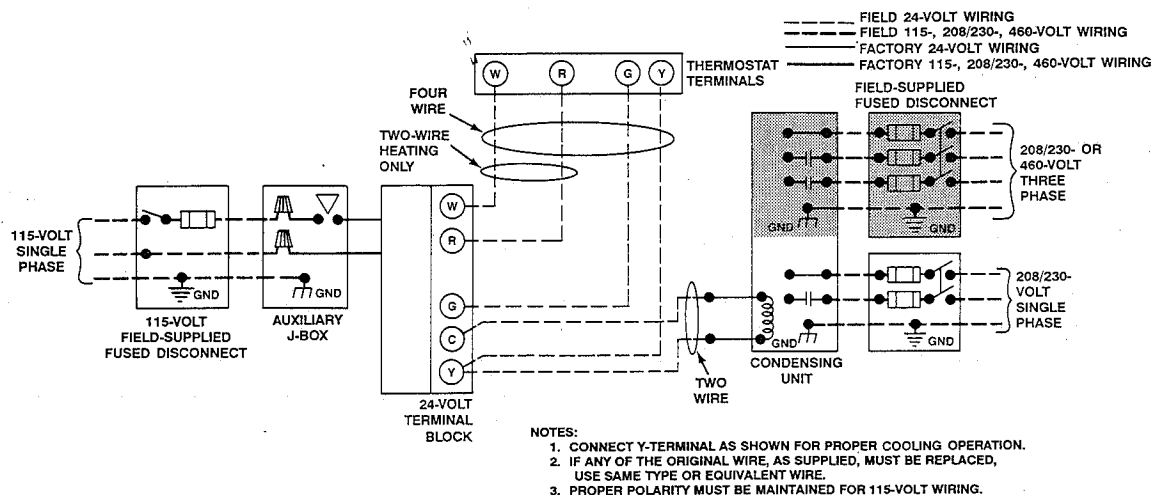
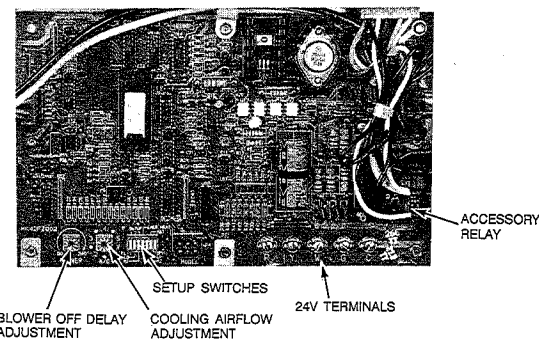
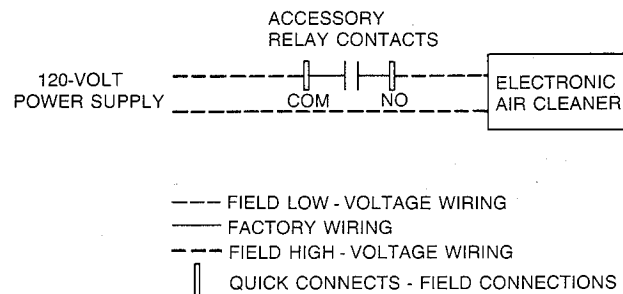

Fig. 7—Heating and Cooling Application Wiring Diagram
Fig. 11—Microprocessor Control Center A92099
Fig. 12—Electronic Air Cleaner A87330
See Fig. 7 for a wiring diagram showing the proper field 115- and 24-v wiring. Check all electrical connections (both factory and field) for tightness.
24-V WIRING — Make field 24-v connections at the 24-v terminal block on the control center; connect Y terminal as shown in Fig. 7 for proper cooling operation. The 24-v terminal board is marked for easy connection of field wiring. (See Fig. 11.)
Wire the air conditioner control circuit to terminals Y and C. (See Fig. 7 and 11.)
When connecting a 2-speed outdoor unit to this furnace, connect Y1 and Y2. (See Fig. 7, 9 and 11.) Set constant fan speed as directed below.
An isolated set of normally open contacts (not connected to 24 vac or 120 vac) are available to operate any accessory such as an electronic air cleaner (EAC) or humidifier. The relay contacts will close whenever the blower motor is operating. These contacts are accessible by two 1/4-in. quick connects mounted directly on the relay as shown in Fig. 11. Wire leads with quick connects have been supplied as part of the control box wiring to simplify hookup per the 3 possible combinations shown in Fig. 12, 13, or 14.
4. Cut wire tie that surrounds accessory hookup leads. (See Fig. 11.)
NOTE: For 120-v accessory hookup, see items 5 through 11 and Fig. 12 or 13.
5. Locate black pigtail lead from 120-v terminal block (TB) and cut off tip of insulator—allowing 1/4-in. quick connect to be used.
NOTE: If a bypass-type humidifier is used, the bypass humidifier switch on the microprocessor control board must be placed in the ON position to increase the low-heat blower motor speed. This prevents nuisance limit trips caused by the increase in return-air temperature caused by the bypass from the humidifier. (See Fig. 11 for BPH switch location.)
For proper furnace operation, follow the installation instructions provided by the modulating damper system manufacturer. In addition, the multizone switch (labeled MZ on the microprocessor control board) must be placed in the ON position so the microprocessor can vary the blower speed to compensate for dampers that have modulated closed during heating or cooling cycles. (See Fig. 11 and Table 9 for multizone setup switch MZ location.) A 2-stage thermostat interface kit may be required for multizone applications. Short OFF or long ON cycles may cause furnace to run continuously in high-fire operation. See kit instructions for further details.